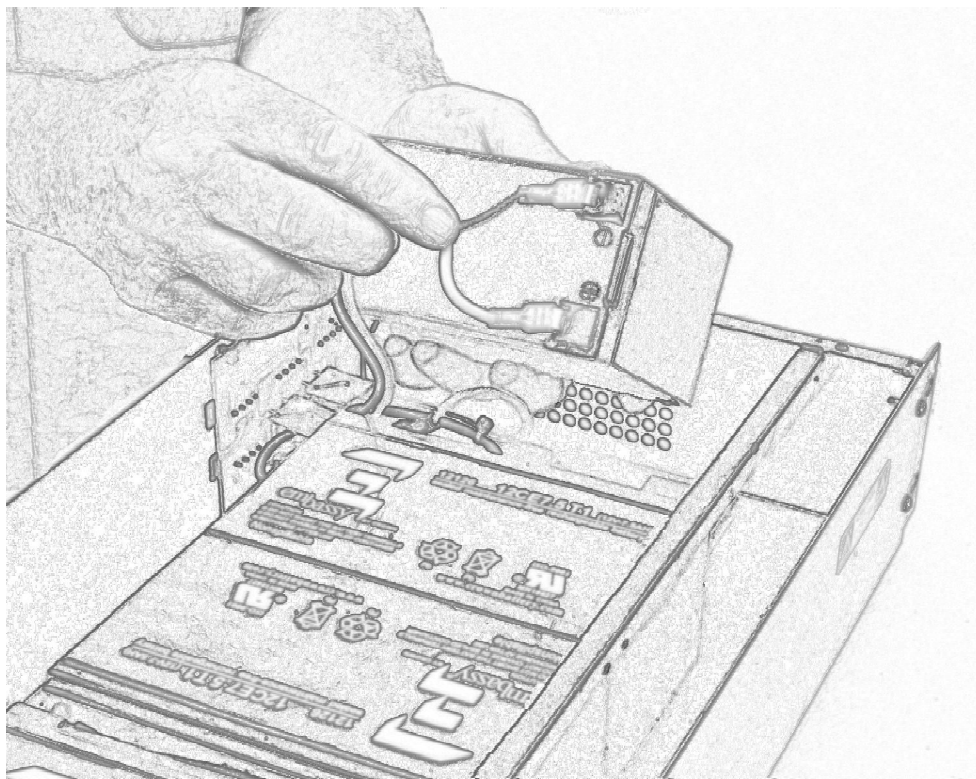

Figure 4.1.2.2
6. Connect and install new batteries, one at a time, as shown in Figure 4.1.2.2.